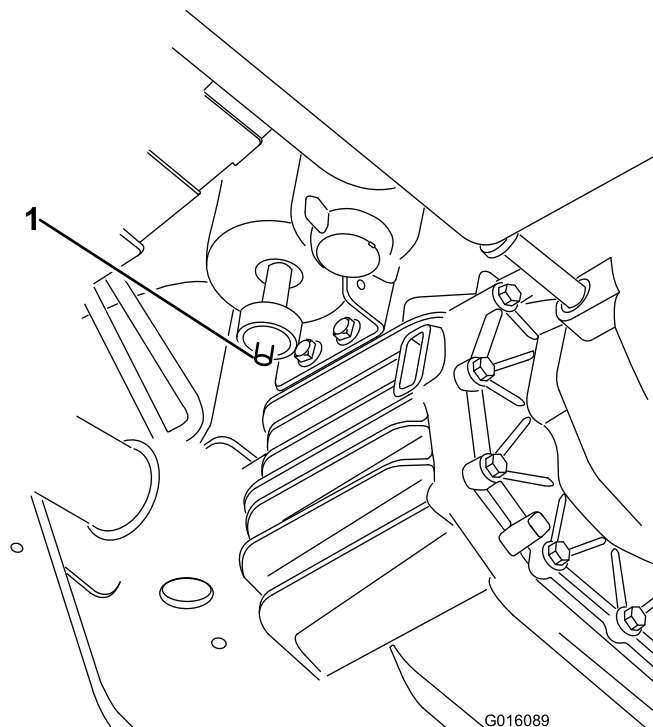

Figure 40
1. Locate the air filter on the bottom of the carbon canister (Figure 40).